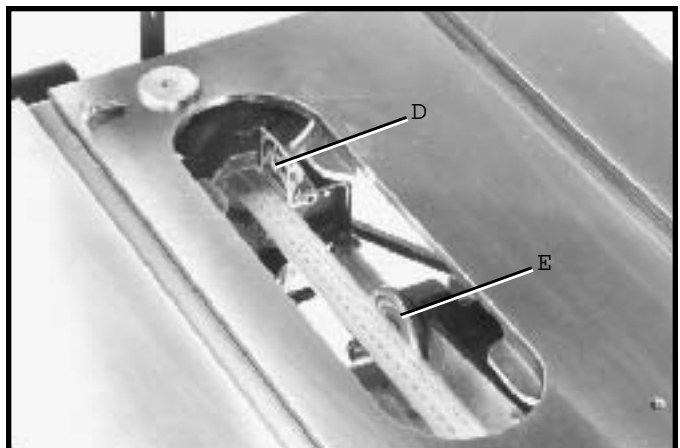

Fig. 27
4 Using a straight edge, check to see if the top and bottom of the inside splitter bracket (D) Fig. 27, is aligned with the inner arbor flange (E), as shown.